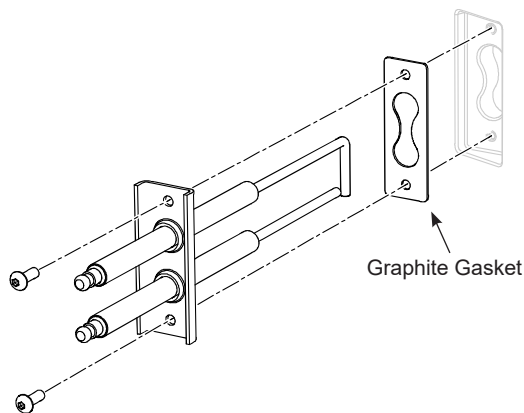

Figure 24: Igniter Electrode Assembly
- e. Install igniter electrode in the orientation shown in Figure 24; otherwise, the unit will not light.